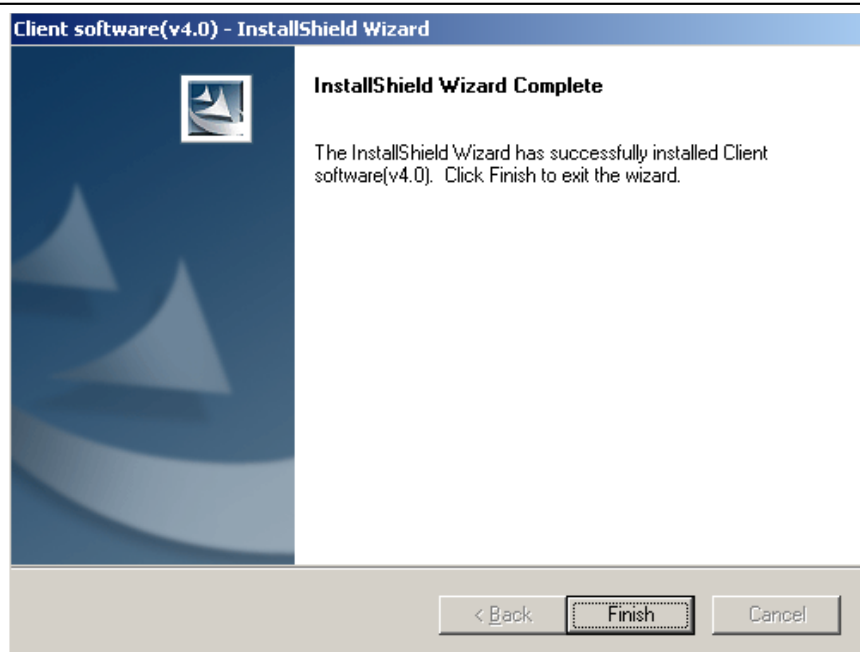

Fig2.4.7 Installation Complete
Step6: After finishing the installation, the installation completed dialog box will popup as Fig.2.4.7.